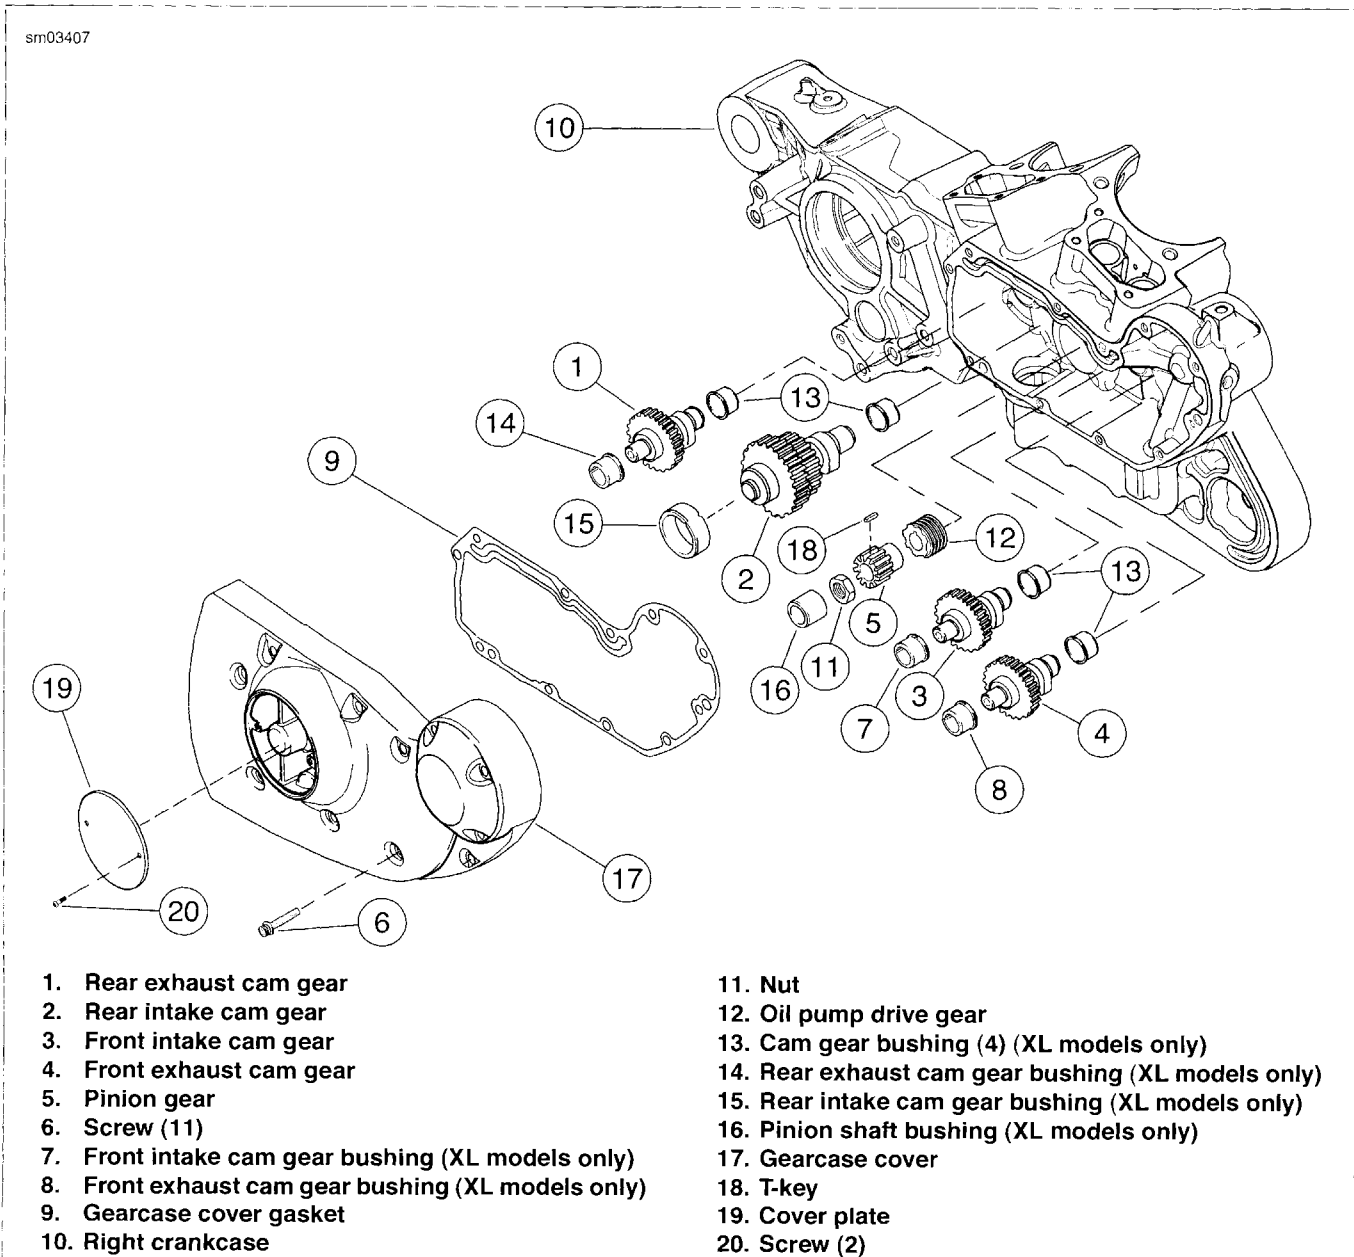

Figure 3-106. Gearcase and Valve Train Components (XL model shown)
1. See Figure 3-106. Bushings (7, 8, 13, 14, 15, 16) are press
1. See Figure 3-106. Using an arbor press, install each bushing (7, 8, and 14) in its gearcase cover (17) bore so that bushing shoulder contacts cover boss. There is no need to orient these particular bushings in any specific position of rotation within gearcase cover bores.
See Figure 3-106. Rear intake cam gear bushing (15) must be installed in its gearcase cover (17) bore using an arbor press. You will need to orient the bushing in a specific position of rotation within the cover bore.
1. See Figure 3-106. Using an arbor press, install pinion shaft bushing (16) in gearcase cover (17) so that bushing is flush with cover boss. There is no need to orient this particular bushing in any specific position of rotation within the gearcase cover bore.
1. See Figure 3-106. Bushings (7, 8 and 14) to be reamed must be installed in gearcase cover (17) as described in 3.20 GEARCASE COVER AND CAM GEARS, Bushing Installation: XL Only. Attach gearcase cover to right crankcase (10), which has been disassembled from left crankcase, securing with a minimum of three mounting screws.
2. Insert a standard 11/16-in. diameter reamer through the previously reamed cam gear bushing (13) in right crankcase, which is in line with one of the bushings to be reamed in gearcase cover.
1. See Figure 3-106. Rear intake cam gear bushing (15) must be installed in gearcase cover (17) as described in 3.20 GEARCASE COVER AND CAM GEARS, Bushing Installation: XL Only.
2. Identify the previously reamed rear intake cam gear bushing (13) in right crankcase (10), which has been disassembled from left crankcase. Insert the shank end of REAR INTAKE CAM GEAR BUSHING REAMER (Part No. HD-94803-67) through gearcase side of this bushing.
1. See Figure 3-106. Pinion shaft bushing (16) must be installed in gearcase cover (17) as described in 3.20 GEARCASE COVER AND CAM GEARS, Bushing Installation: XL Only. Attach gearcase cover to right crankcase (10), which has been disassembled from left crankcase, securing with a minimum of three mounting screws.